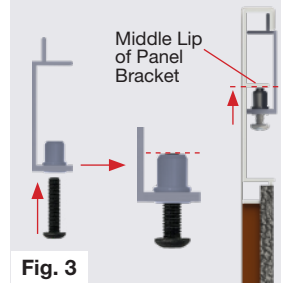

Fig. 3
- **Assembly:** Insert a Leveling Screw into each Micro Adjustment Hanging Bracket until it is flush with the rivet nut. Then, insert the Hanging Bracket into the Panel Bracket and spin the Leveling Screw until it makes contact with the middle lip of the Panel Bracket. (Fig. 3)